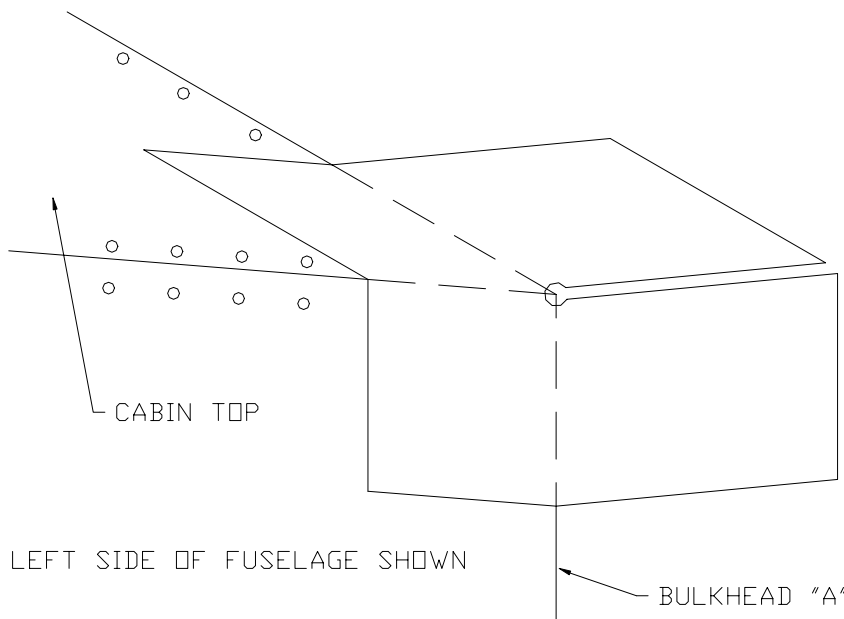

Figure 9.14.2
- 2) Position one gusset at bulkhead "A" position as in figure 9.14.2.